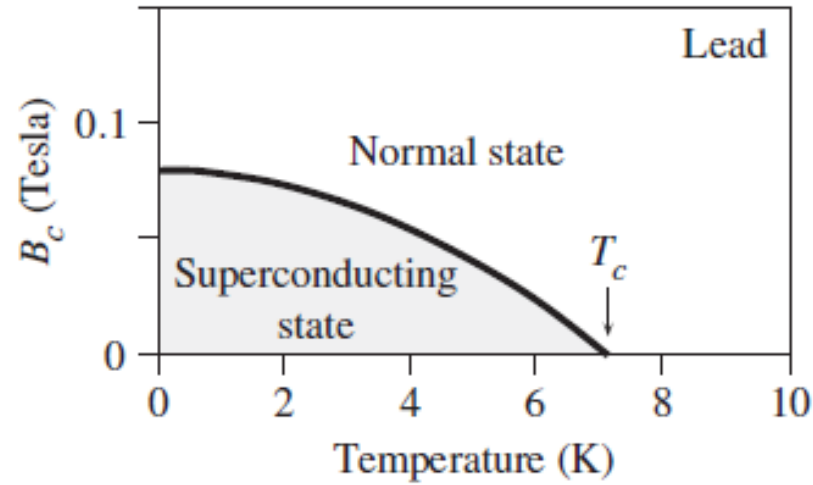

Figure 8.59 The critical field versus temperature in Type I superconductors.
- This critical field depends on the temperature and is a characteristic of the material. Figure 8.59 shows the dependence of the critical field on the temperature. **The critical field is maximum, $B_c(0)$, when $T = 0$ K.**